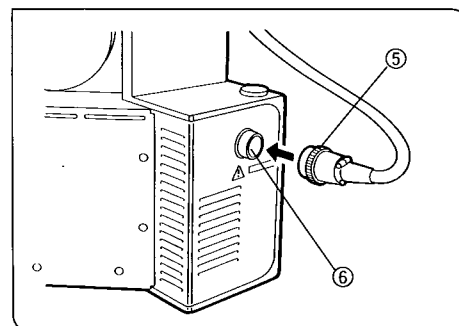

Fig. 7
5. Align the plug ⑤ of the connecting cord extending from the illumination column with the notch in the lamp power output connector ⑥ on the rear of microscope frame and connect them firmly (Fig. 7).